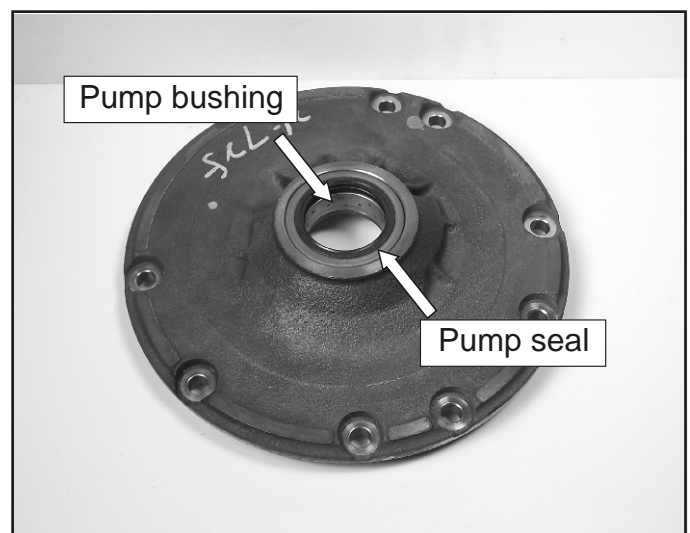

Figure 112
61. Check the pump bushing for wear and replace the front seal, as shown in Figure 112.